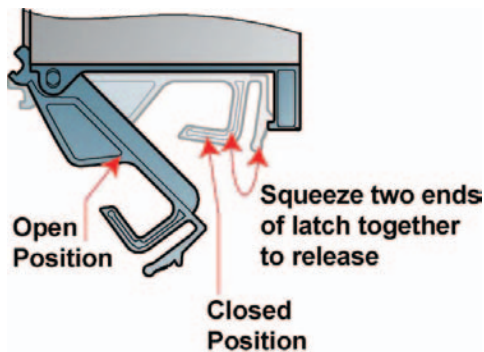

Figure 7: Cooling Module Latch
2. With the latch in the open position (see Figure 7), slide the module into the enclosure until the latch engages automatically.